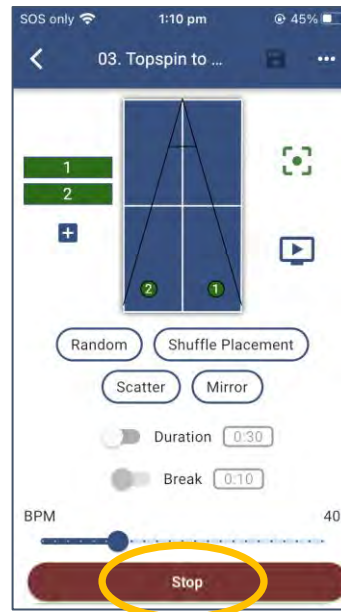

Figure 3-31
4. Push the Start Drill button on the bottom of the screen to start the Drill. Once the Drill has started, the Start Drill button will change to a Stop Drill button (Figure 3-31).
3.4.10 Deleting a Drill (Figure 3-31)